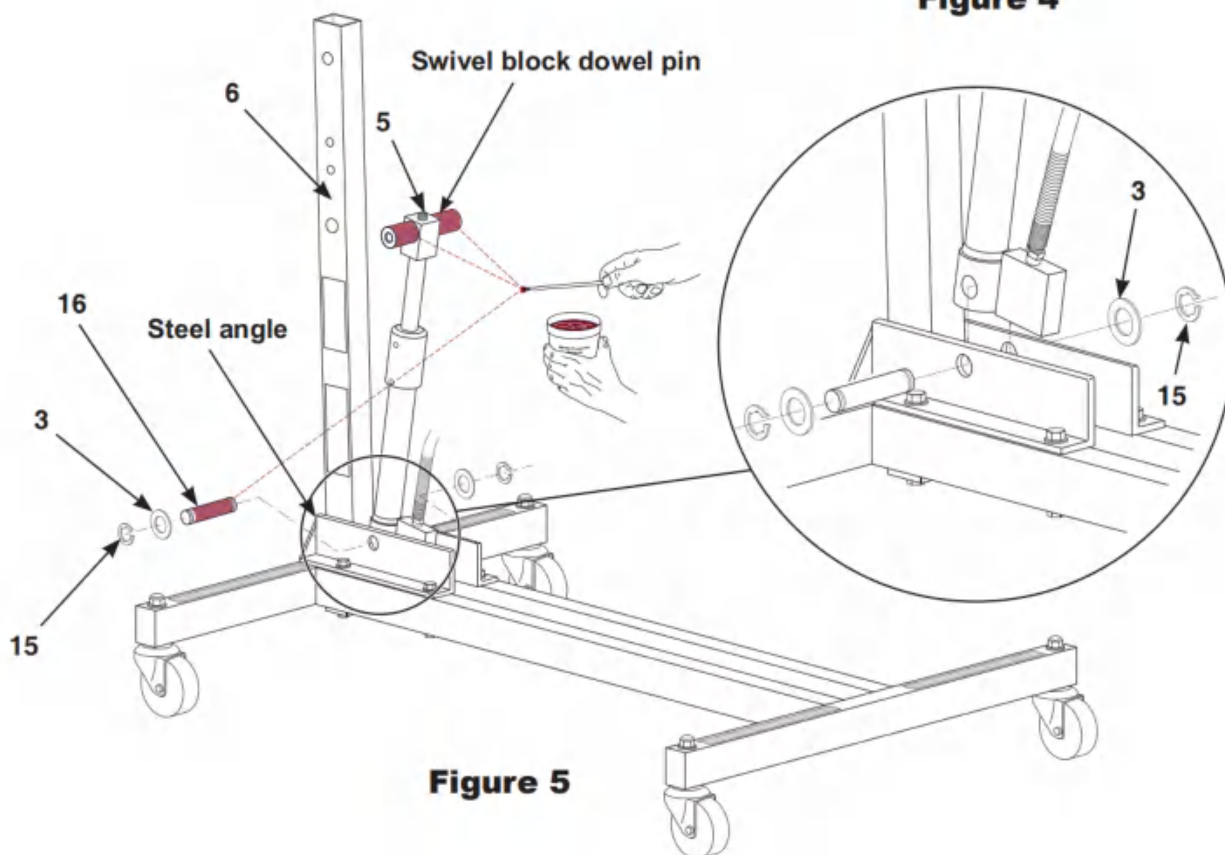

Figure 5
5. Apply grease to the swivel block (5) dowel pin and to pivot pin (16) as shown. See Figure 5.
6. Mount the cylinder to the mast using the pivot pin (16), two 5/8" washers (3), and two 5/8" retaining rings (15). Assemble washers and retaining rings on the outside of the steel angle on both sides of the mast (6). See Figure 5.